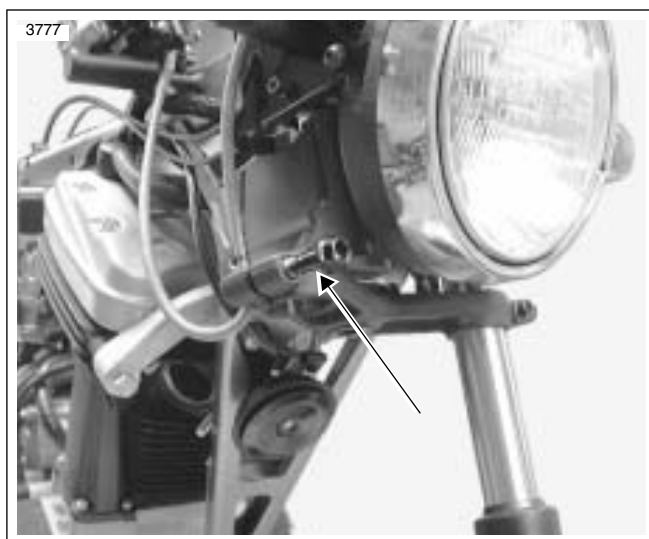

Figure 2-96. Location of Anti-Seize on Triple Clamp Pinch Screws
2. See Figure 2-96. Apply LOCTITE ANTI-SEIZE to the threads of triple clamp pinch screws.